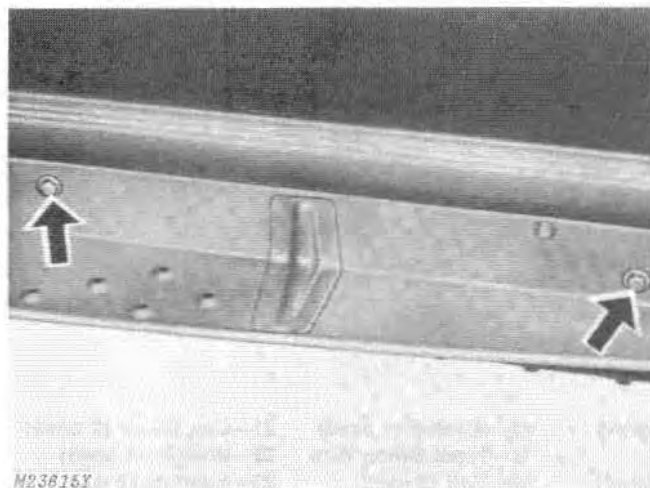

Fig. 1-Suspension Retaining Bolts
1. Remove suspension retaining bolts, Fig. 1, from each side of tunnel. Remove rear bolts first.